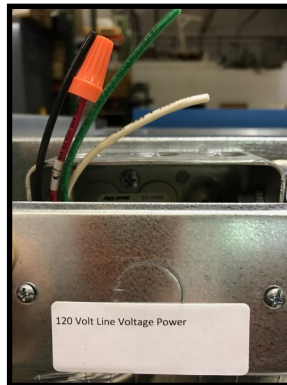

Figure 12.1
Power for the SG Pro series boiler should be brought to the junction box in the back of the boiler under the top panel (Figure 12.1). Line voltage from the fire-o-matic should be applied to the black wire. The neutral leg should be connected to the white wire and the ground to the green wire. If a external circulator will be controlled by the Hydrolevel control, use the red wire in the junction box to power the circulator. The dry contact switch for the Hydrolevel low voltage control circuit (TT) should be connected to the terminals on the right rear of the boiler (Figure 12.2).